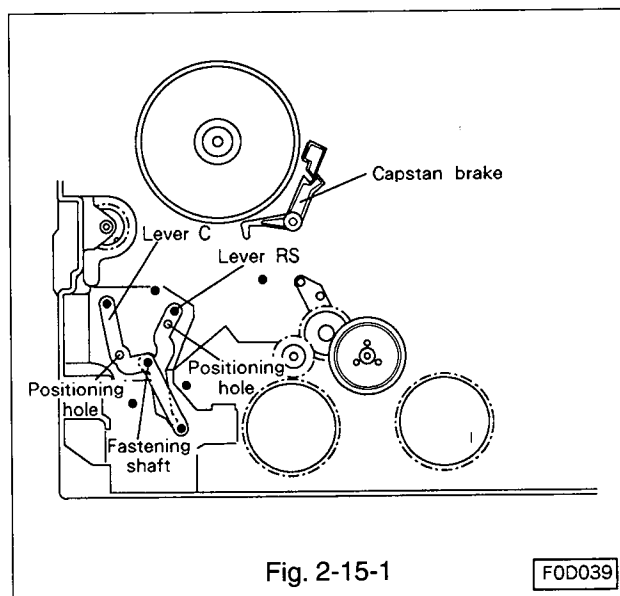

Fig. 2-15-1
2-15 Positioning and Installation Sequence of Parts Around Main Cam 1 (Bottom Side of Deck) (Refer to Fig. 2-15-1~2-15-6.)
- Line the positioning hole in lever RS to that of the main plate, and assemble lever RS to the shaft. (Refer to Fig. 2-15-1.)